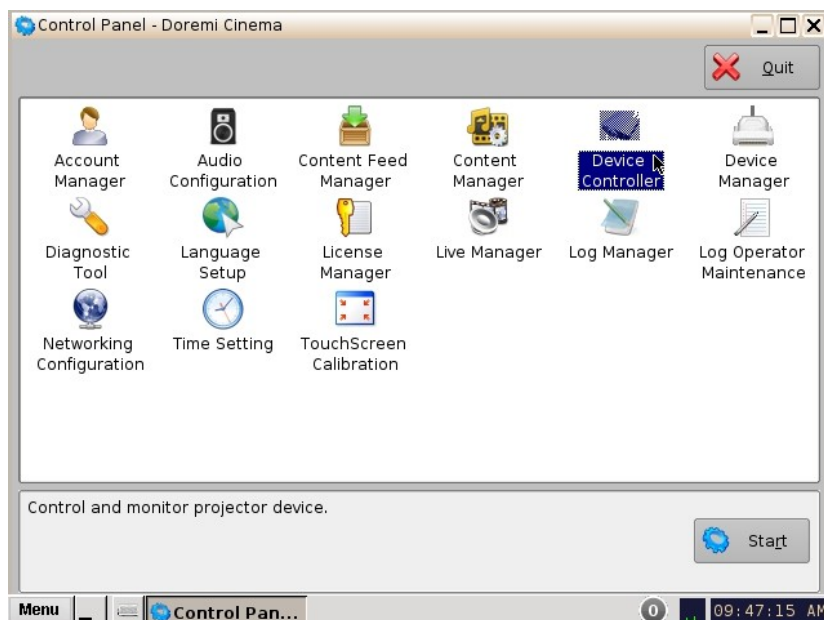

Figure 86: Control Panel with Device Controller Selected
- To open the Device Controller application, go to Menu -> Control Panel and double-click on the Device Controller icon (Figure 86).